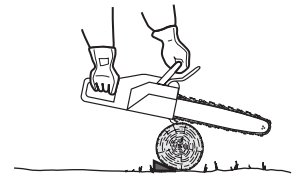

Fig. 35
6. If the wood diameter is large enough for you to insert a soft bucking wedge without touching the chain, you should use the wedge to hold the cut open to prevent pinching (Fig. 35).